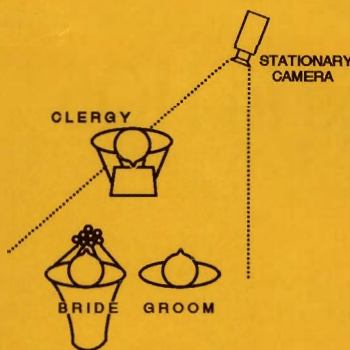

Figure 1: Place the unmanned camera as unobtrusively as possible. Disrupting the ceremony is bad business.
4. If you don't own a second camera, consider renting one. You can more than make up for the rental with your "deluxe two-camera wedding" price. While the majority of congregations and clergy will not allow a cameraperson up front during the ceremony, many will permit an unattended stationary camera. You can set this camera up during the rehearsal to shoot the bride and groom during the ceremony (Figure 1). Position the camera as unobtrusively as possible. If the clergyperson is reluctant to agree to this, emphasize that this is your method of providing an excellent video, while respecting the sanctity of the service at the same time.